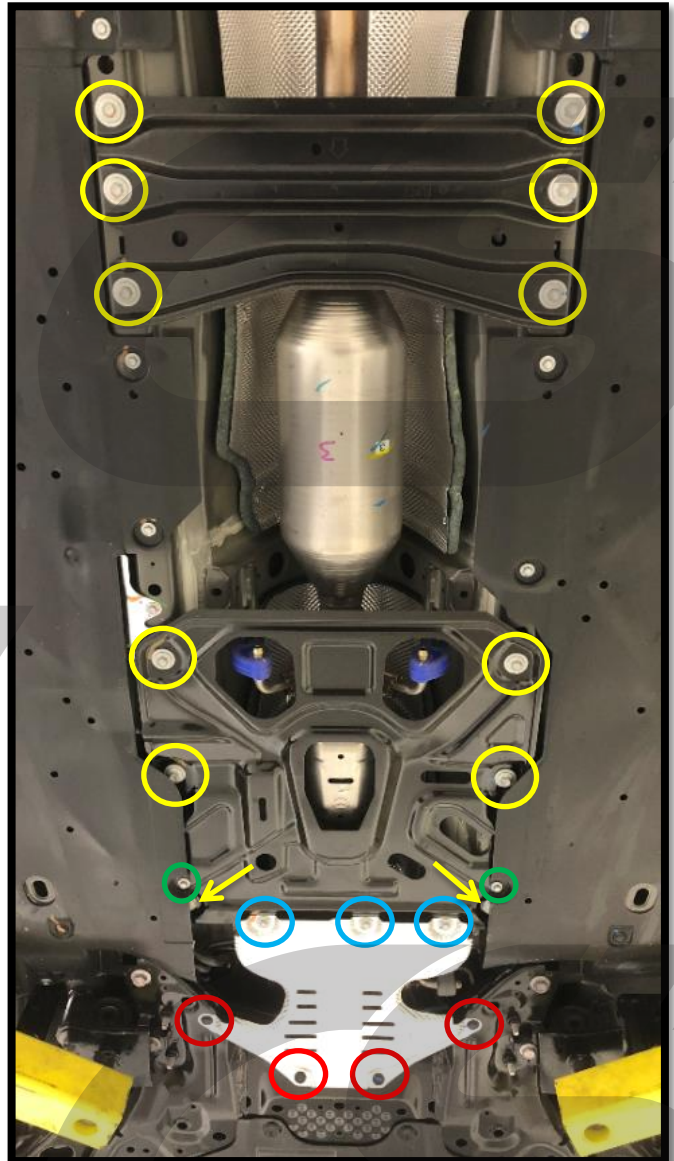

Figure 3a
a) Remove four (4) push clips using a flathead screwdriver from the silver underbody shield. These clips are near the front of the vehicle and are circled in red in **Figure 3a**.
b) Remove three (3) 10mm bolts from the silver underbody shield. Shown circled in blue in **Figure 3a**. The silver underbody shield can then be removed from the vehicle.
c) Remove two (2) 10mm bolts from the forward chassis brace. Shown circled in green in **Figure 3a**.
d) Remove twelve (12) 12mm bolts from the chassis braces. Six are located in the forward brace, six are located in the rearward brace. Shown circled in yellow in **Figure 3a**. Two bolts on the forward brace are hard to see and are shown with yellow arrows.